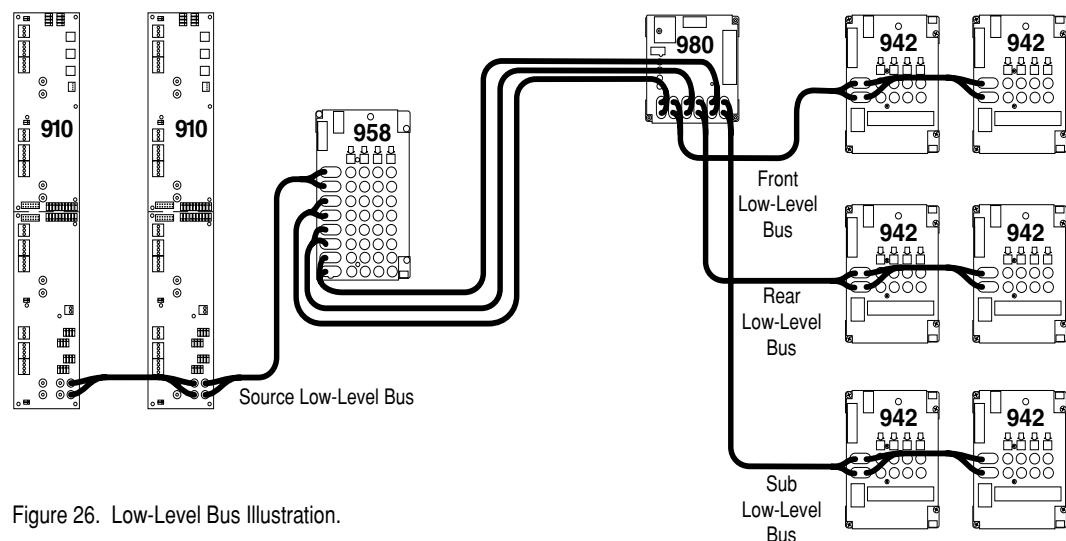

Figure 26. Low-Level Bus Illustration.
- Connect all modules serving each pair of low-level channels in a given group, such as source outputs (910 or 922), front amp inputs or rear amp inputs (942).
- Connect the processor output bus to the 980 System Module input bus; connect the 980's output bus to the amplifier bus input. The 980 has inputs and outputs to feed processor output signals to front, rear, and sub amplifier groups (see Figure 26).